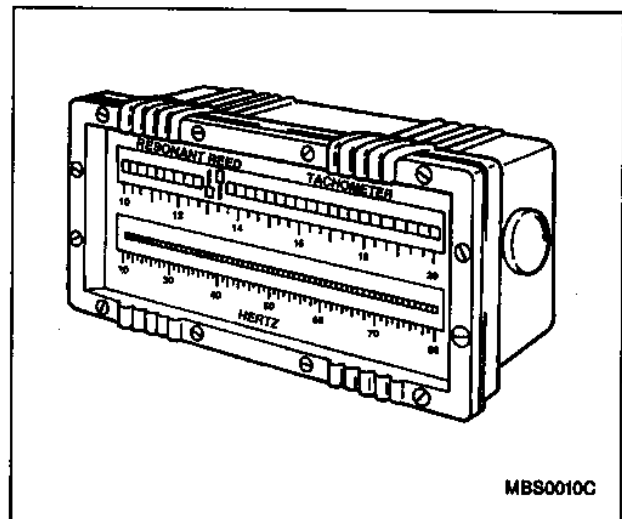

Figure 1—Reed Tachometer
*Figures 1 and 2*
To aid in the diagnosis of vibrations, a reed tachometer can be used to identify the frequency of a rotational component with a repetitive vibration (Figure 1).